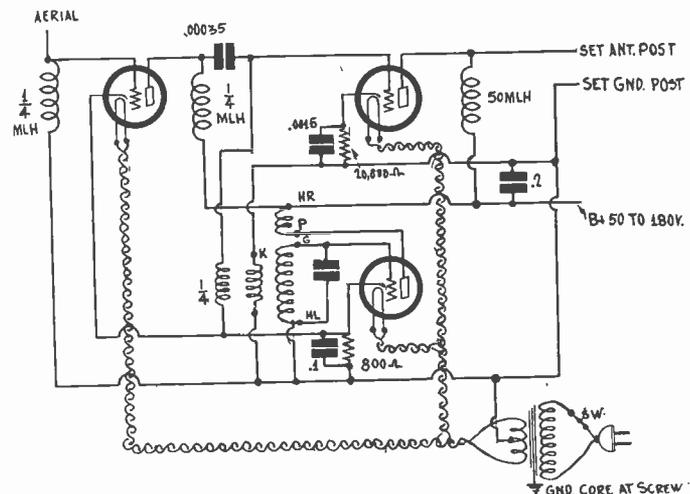

FIG. 1.
**I**N the construction of a short-wave converter it is desirable to have radio frequency amplification ahead of the modulator, and for this purpose a stage of untuned radio frequency amplification is included, as shown in Fig. 1. This builds up the incoming short wave, so that the amplitude is magnified about six times.